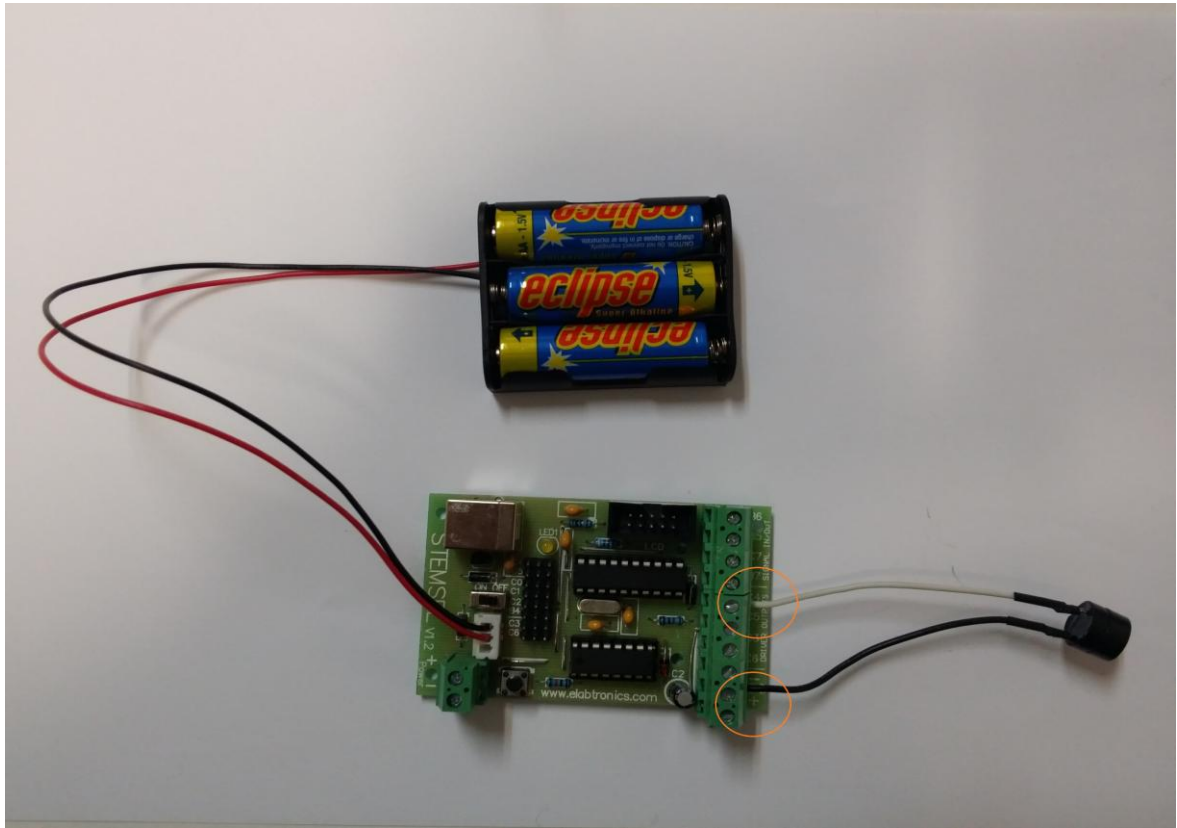

Figure 2.2
- b. Connect the black wire of the buzzer to the “-“ (negative terminal) on the green connector strip and connect the white wire to terminal “C4” (see Figure 2.2). Remember to turn the screw anti-clockwise to open the terminal, and clockwise to close it.